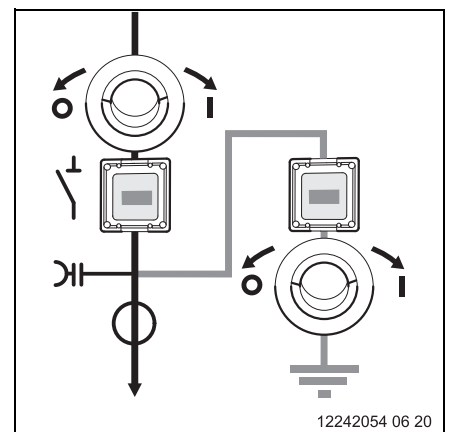

Fig. 59
**5** Switch position with deactivated disconnecter and deactivated earthing switch (Fig. 59).